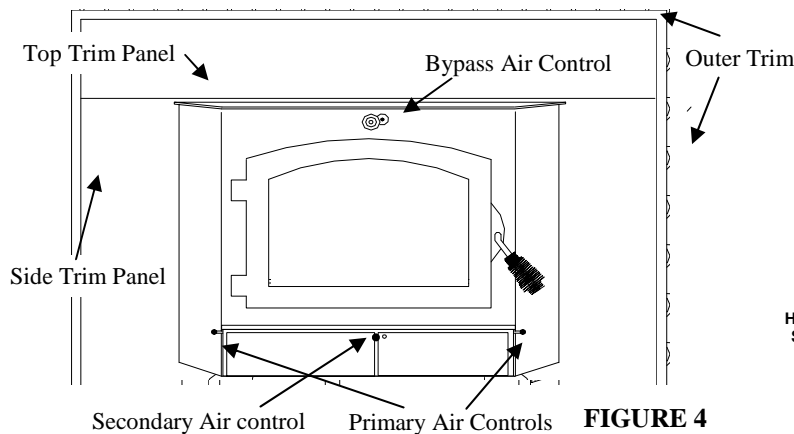

FIGURE 4
9. Obtain the brass trim kit provided with insert kit and slip over the top and sides of trim panels. Top ends of brass may need to be trimmed to fit (See Figure 4).
**Damper Bypass Control:** The damper bypass control is located at the center top of stove. To close push in, to open pull out. (See Figure 4).